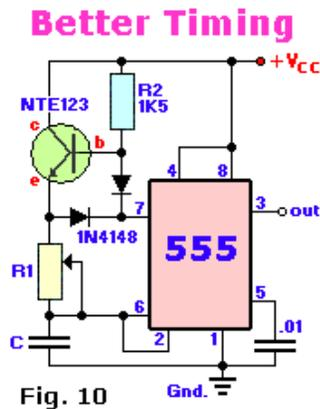

Fig. 10
Fig. 10, Better Timing: Better and more stable timing output is created with the addition of a transistor and a diode to the R-C timing network. The frequency can be varied over a wide range while maintaining a constant 50% duty-cycle. When the output is **high**, the transistor is biased into saturation by R2 so that the charging current passes through the transistor and R1 to C. When the output goes **low**, the discharge transistor (pin 7) cuts off the transistor and discharges the capacitor through R1 and the diode. The high & low periods are equal. The value of the capacitor (C) and the resistor (R1 or potentiometer) is not given. It is a mere example of how to do it and the values are pending on the type of application, so choose your own values. The diode can be any small signal diode like the NTE519, 1N4148, 1N914 or 1N3063, but a high conductance Germanium or Schottky type for the diode will minimize the diode voltage drops in the transistor and diode. However, the transistor should have a high beta so that R2 can be large and still cause the transistor to saturate. The transistor can be a TUN (Europe), NTE123, 2N3569 and most others.